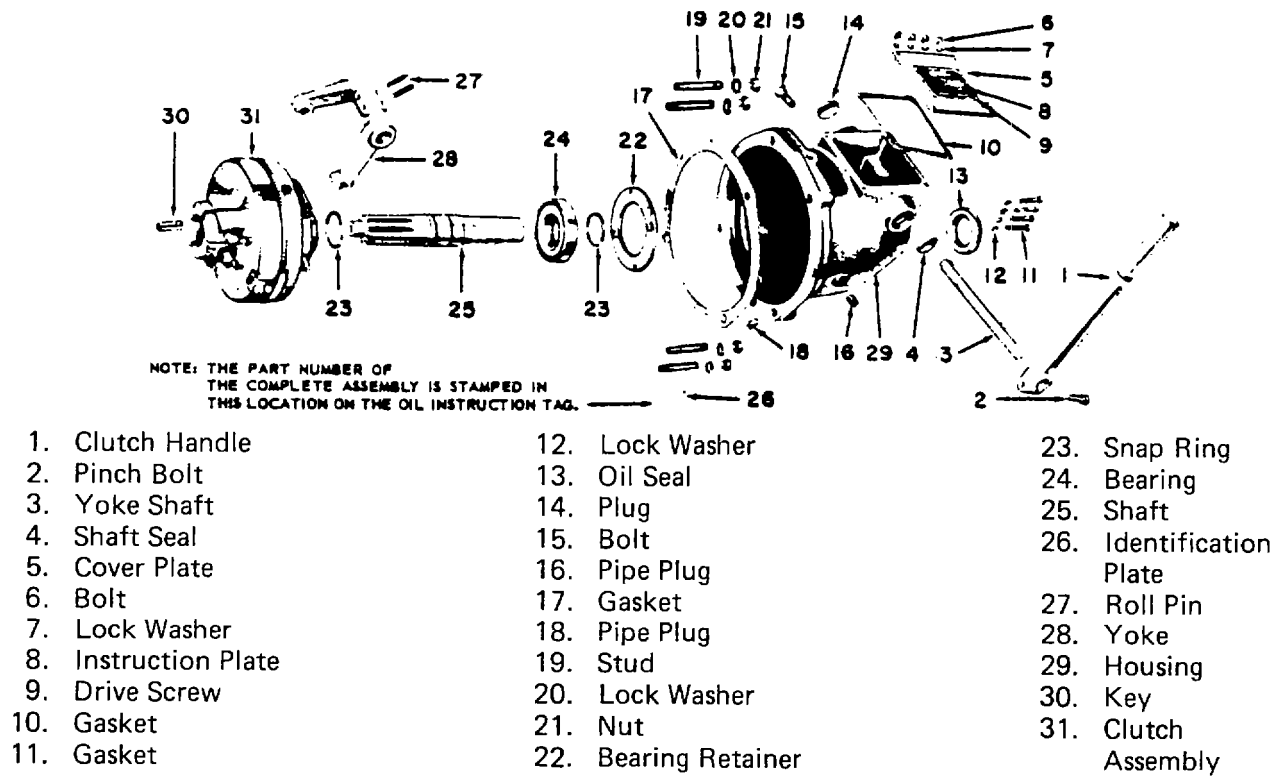
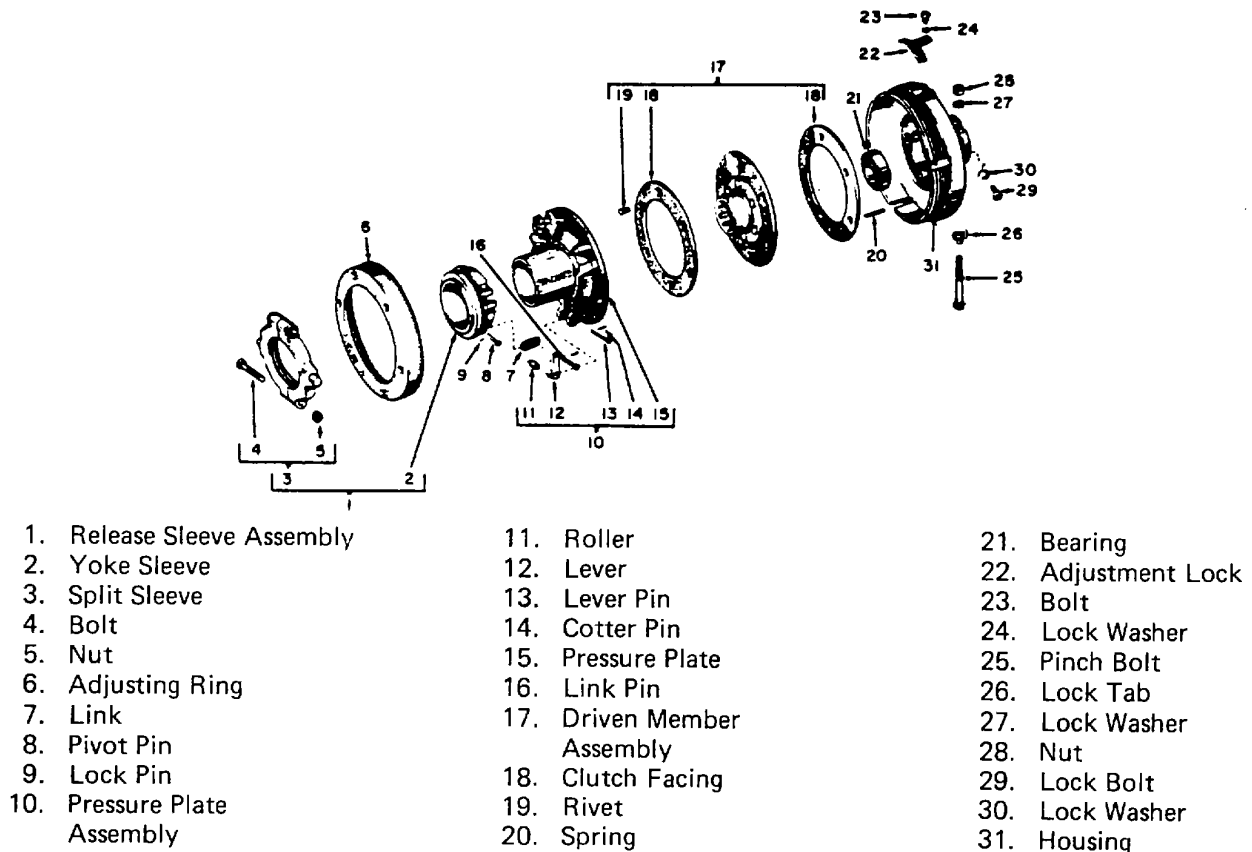

Figure 6-34. Clutch Assembly
Figure 6-35. Release Sleeve Assembly
- (1) Position starter into opening in engine shroud.
- (2) Align bolt holes in starter flange with bolt holes in engine shroud.
- (3) Install three bolts and lock washers into starter and engine shroud.
- (4) Position starter support bracket over mounting studs and end of starter.
- (5) Install and secure two nuts and lock washers.
- (6) Connect and secure starter cable at starter.
- s. Clutch. Install clutch (Figure 6-34).
- (1) Install shaft key (30) into crankshaft.
- (2) Slide clutch assembly (31) onto crankshaft. Secure with pinch bolt (25), washers (26 and 27) and nut (28). (Figure 6-35)
- (3) Install and secure setscrew (29) and washer (30). (Figure 6-35)
- (4) Position gasket (17) and clutch housing (29) over four studs in engine. Secure with four nuts (21) and washers. (Figure 6-34)
- (5) Insert clutch yoke (28) into inspection opening. Position ends of clutch yoke (28) over lugs on release collar (3). (Figure 6-35)
- (6) Install yoke shaft (3) into clutch housing (29) and through yoke (28).
- (7) Align holes in yoke (28) with holes in yoke shaft (3). Secure with two roll pins (27).
- (8) Install clutch operating lever (1) over end of yoke shaft (3). Secure with pinch bolt (2).
- (9) Adjust clutch. Secure with adjustment lock (22), bolt (23) and washer (24). (Figure 6-35).